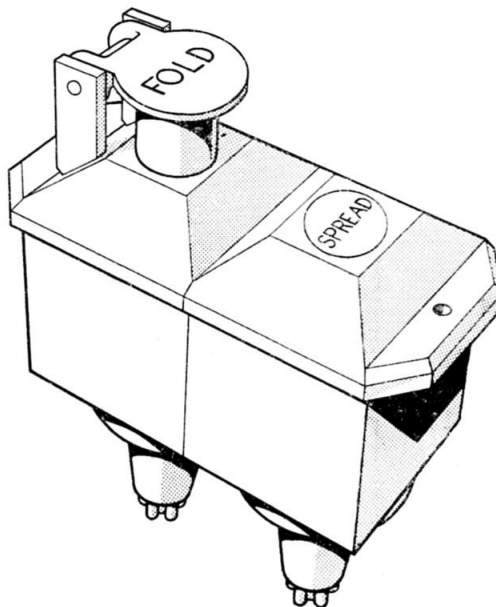
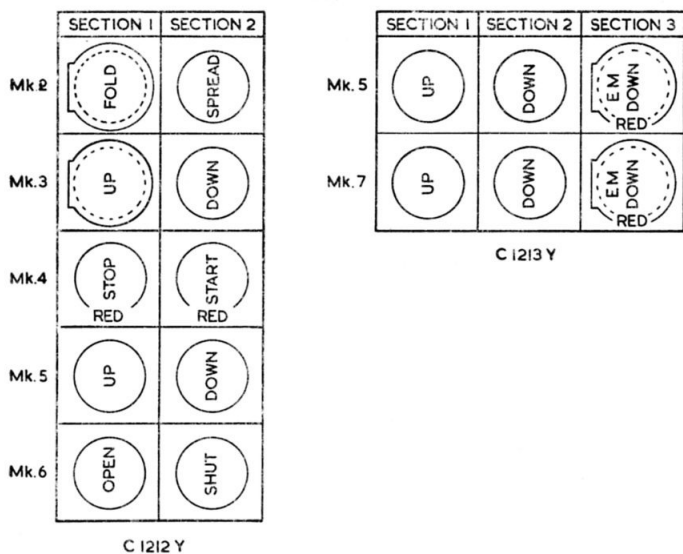

Fig. 1. Push-switch, Type C1212Y, Mk. 2
Fig. 2. Switch details
2. A general view of a typical switch of this range, the Type C1212Y, Mk. 2, is shown in fig. 1. Details of the various marks are given in fig. 2, and in Table I, from which it will be seen that there may be either two or three switch sections with or without locking mechanism and with or without safety flaps. The switches with a locking mechanism, become unlocked when a 24-volt d.c. supply is connected across terminals 5 and 6. The lock can be overridden manually by a pressure of approximately 40 lb., but the override is for emergency use only, and to avoid wear it should not be operated frequently.